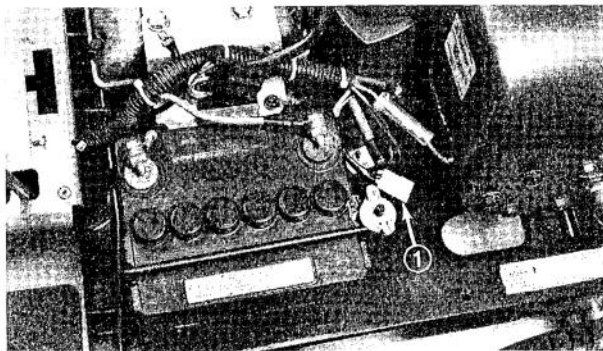

Figure 45
2. Push Electro Charger connector onto battery charge connector (Fig. 45).